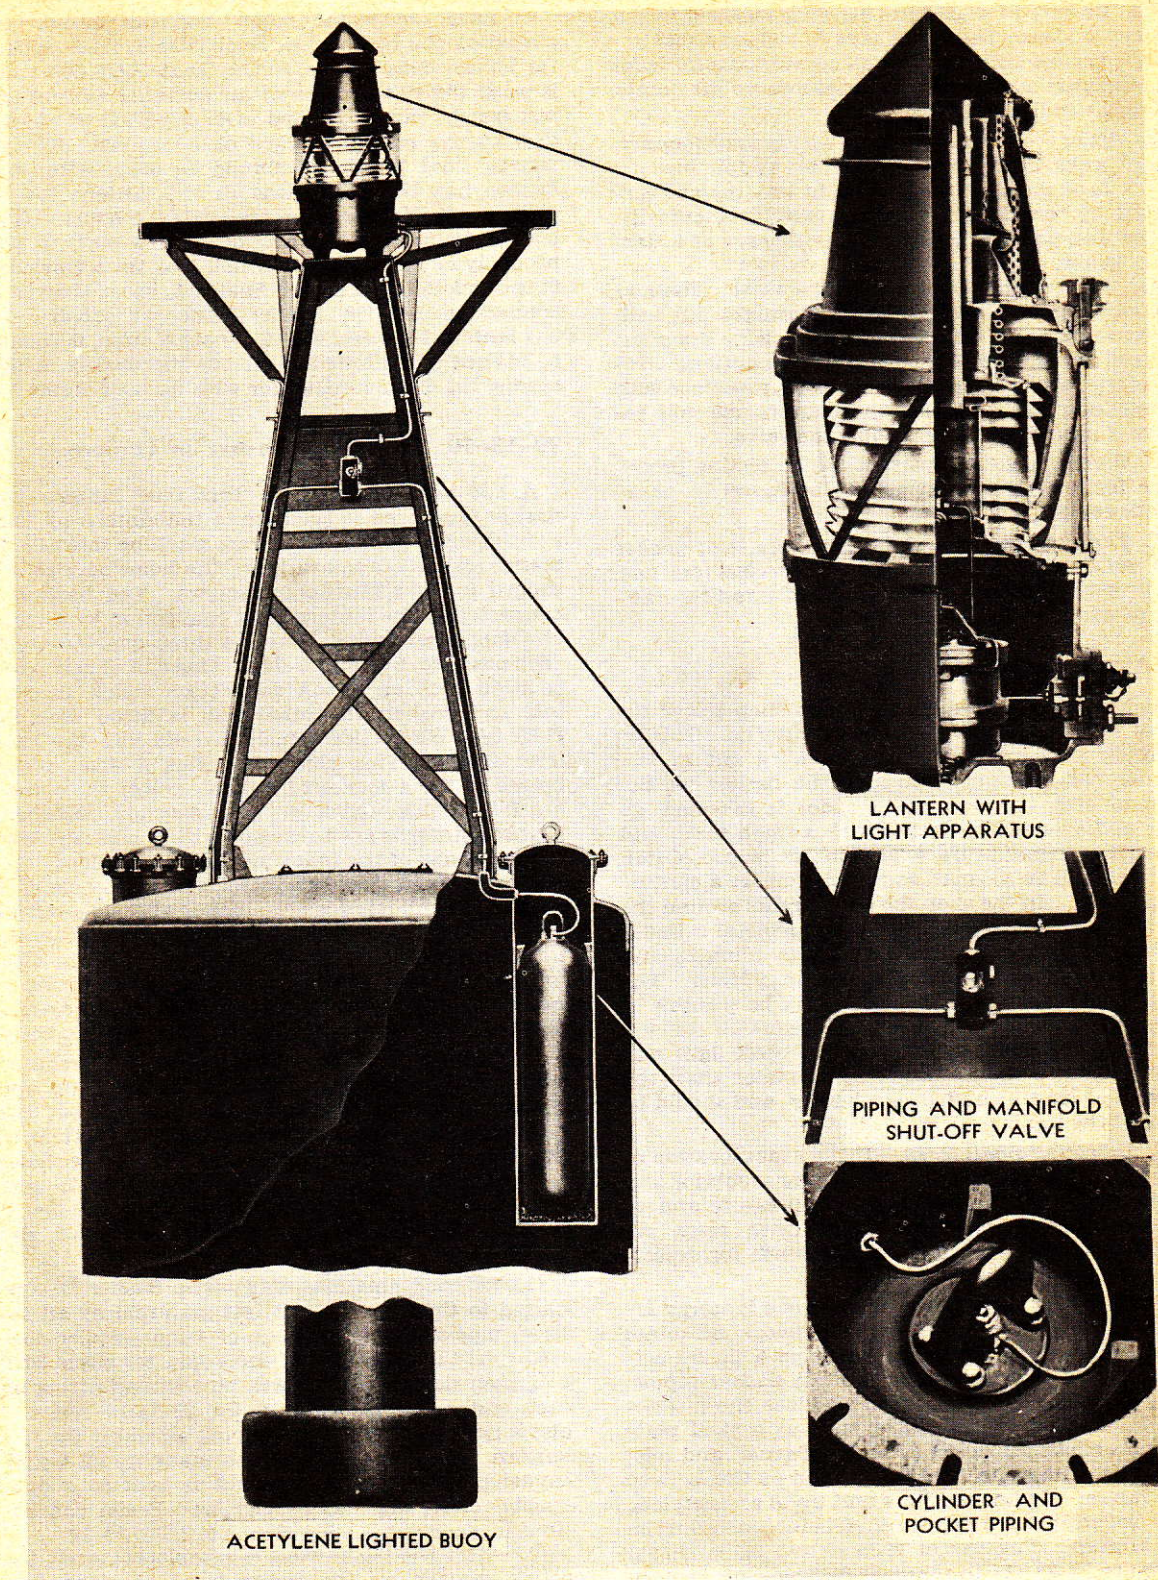

FIGURE 20-72.—Piping arrangement of acetylene lighted buoy.
(5) *Piping system arrangement.*—This consists of five lengths of tubing, one stainless steel length to connect the cylinder in each of the two buoy pockets to the threaded staybolt, one copper-covered or stainless steel length from each of the staybolts to the manifold, and one from the manifold to the lantern. When installing tubing, bend the lower end of each tower leg tubing to lead fair for about 3 inches from the staybolt in the buoy head, thence close into the crotch of the angle, up the leg of the tower and across the inside of the daymark in line with the holes in each side of the manifold. The lantern tubing should lead out of the top hole of the manifold, bend over to the tower leg (to the right, looking from inside) thence up under the lantern plate, across to the center, down, and out under the lower edge of the lantern plate, and then up to the lantern inlet. (See fig. 20-72.)